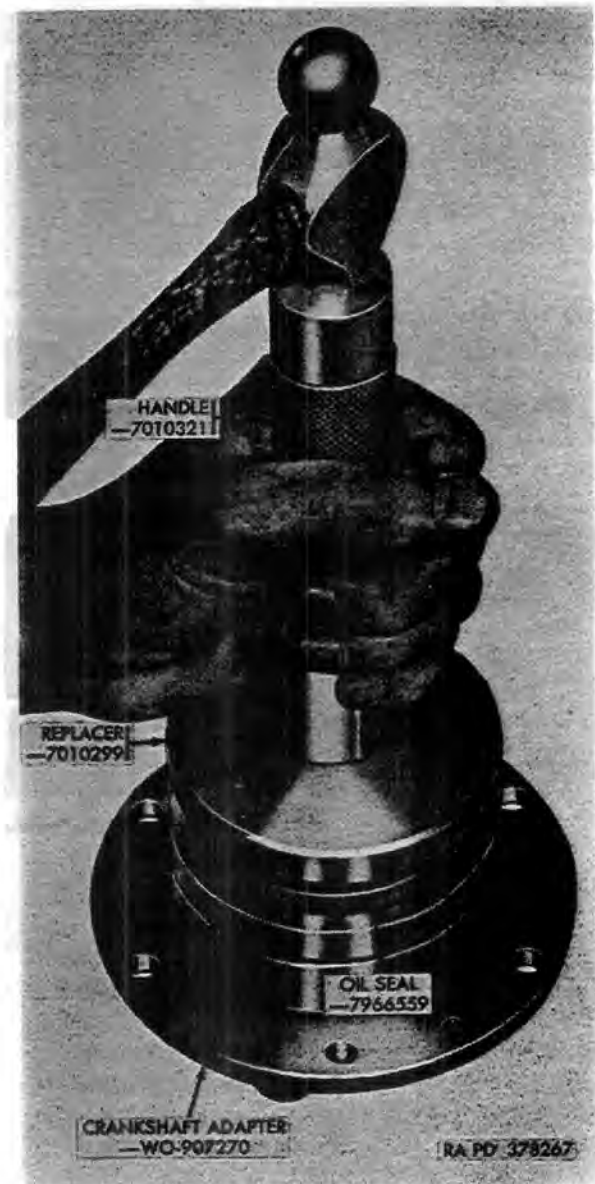

Figure 40. Installing rear main bearing oil seal, using replacer 7010299 and handle 7010321.
- (4) *Oil seal replacement procedure.* Remove spring pin securing oil seal retainer bushing in adapter. Pull oil seal and bushing from adapter with a standard puller. Check fit of new seal to repair and rebuild standards (par. 131). Remove any surface roughness in adapter bore and install new oil seal, using replacer 7010299 and handle 7010321 (fig. 40). Be sure lip of oil seal curls toward opposite end of adapter. Check oil seal retainer bushing for good condition ((5) below) before installation. Position bushing in adapter bore with slots for starter, rewind spring and spring pin holes in alignment. Press bushing into adapter bore until flush with end of adapter. Insert $\frac{3}{8} \times \frac{3}{8}$ spring pin and set below surfaces of inside and outside diameters.